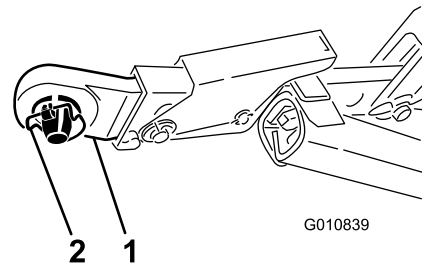
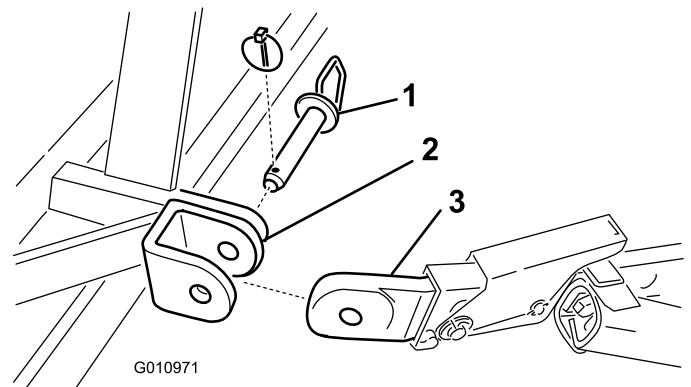

Figure 3
Figure 4
6. Secure the lower link arms to the aerator mounting brackets with either lynch pins (Figure 3) or hitch pins and lynch pins (Figure 4).